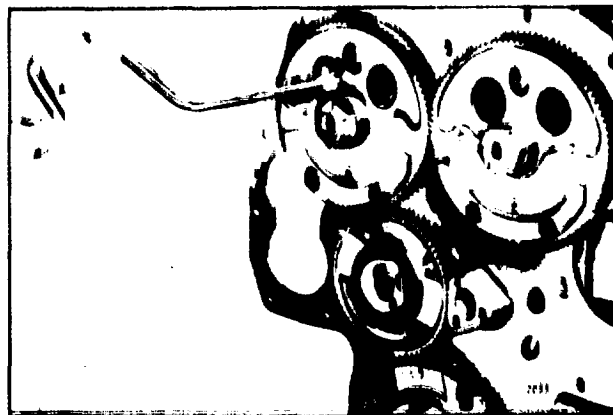

Fig. 2 : Removing or Installing( Thrust Washer Retaining Belts
11. Remove the two retaining bolts that secure the camshaft or balance shaft thrust washer to the cylinder block by inserting a socket wrench through a hole in the web of the gear as shown in Fig. 2.